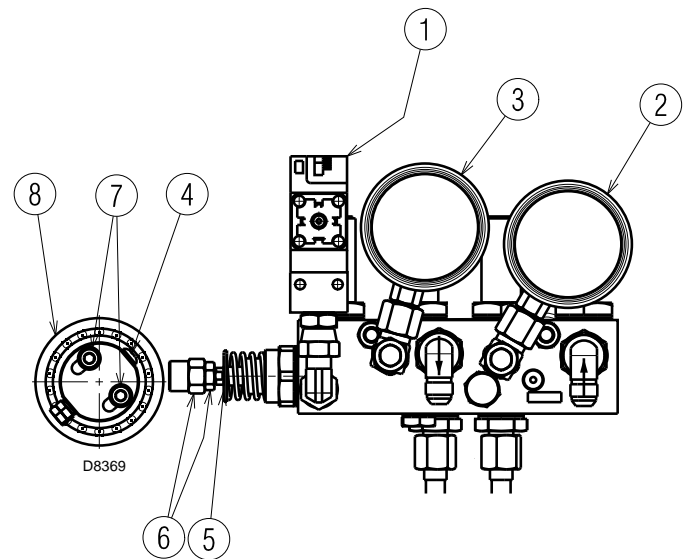

Fig. 39
change eccentricity by turning the screw 4)(Fig. 39) after loosening the screws 7)(Fig. 39).
By tightening the screw 4)(Fig. 39) eccentricity increases, in this way the difference increases between maximum and minimum return pressure to the nozzle.
To do this, the length of the shaft 5) (Fig. 39) must be adjusted, by turning the nut 6)(Fig. 39).
We recommend sufficient setting so as not to create a smoky flame and to reach maximum output as soon as possible (maximum run for the servomotor 130°): set the return pressure on the eccentric (screw 4, Fig. 39) to obtain the output required by the nozzle and then continue with setting the intermediate levels.
- Key (Fig. 39)